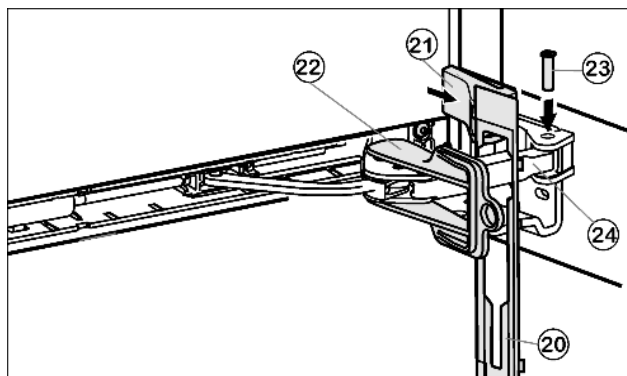

Fig. 14
- ▶ Attach the faceplate Fig. 14 (20) to the soft stop bracket so that the catches face forwards and the front faces the appliance.
- ▶ Draw the soft stop bracket Fig. 14 (24) towards the bearing part and insert the pin Fig. 14 (23) from above so that the square sits in the recess.
- ▶ Attach and engage the cover Fig. 14 (21).
- ▶ Twist the safety lock Fig. 14 (22) for removal.
- ▶ Snap the faceplate Fig. 14 (20) onto the door.